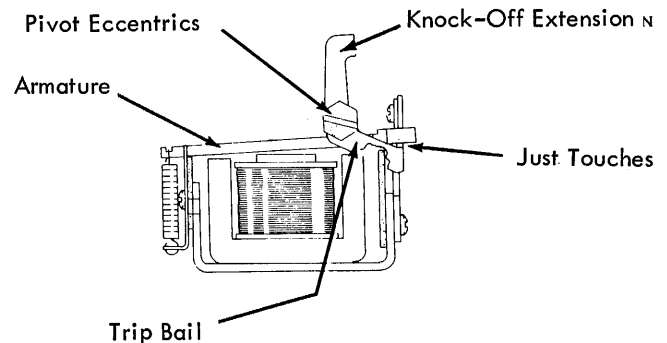

FIGURE 31. Pivot Eccentrics
6. Pivot Eccentrics (Fig. 31) - Adjust so that the cycle clutch trip bail is parallel to the armatures. The following procedure may be used.
If necessary, refine the pivot eccentric adjustment to obtain equal latch lever overthrow from the T2 and R5 armatures (Ref. Fig. 31).